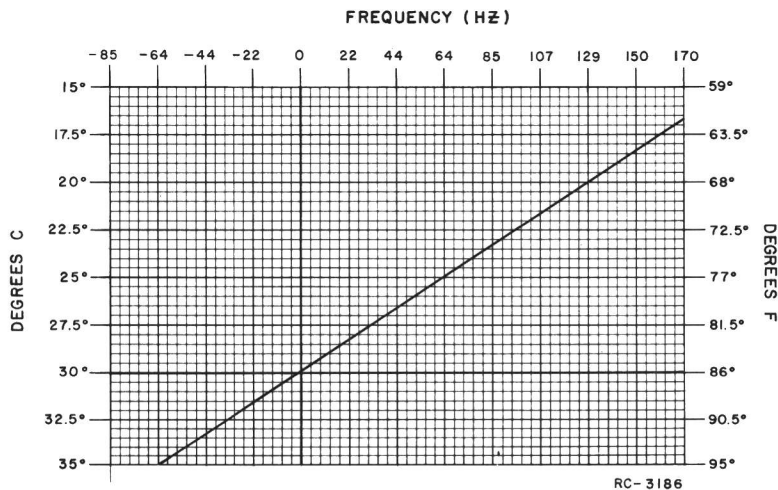

Figure 3 - Frequency Offset Chart
First, check the frequency to determine if any adjustment is required. (Refer to frequency offset chart, Figure 3). The frequency measurement requires equipment with an absolute accuracy that is 5 to 10 times better than the tolerance to be maintained. When adjusting the frequency, the entire radio should be as near as possible to an ambient temperature of 30°C (86°F).
To set crystal frequency using "beat frequency" method, the temperature should be at 30°C (86°F). If the temperature is not 30°C, then offset the "ON FREQUENCY" signal (at the receiver's input), as a function of actual temperature, by the frequency ERROR FACTOR shown in Figure 3.
2. Maintain the radio at 30°C ($\pm 5^\circ\text{C}$, -10°C) and offset the oscillator, as a function of actual temperature, by the frequency error shown in Figure 3.